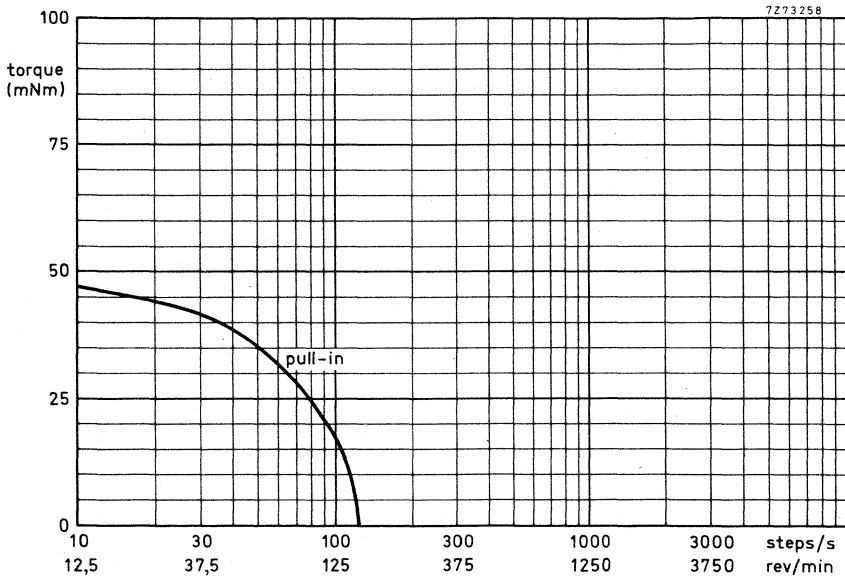

Fig. 2. Torque versus stepping rate, measured at room temperature
2) When driven by electronic switch 9904 131 03003 with RC network (see General section, Fig. 2.  $R_V = 15 \Omega$ ;  $C_V = 50 \mu F$ ;  $V_B = 12 \text{ V d. c.}$ ;  $R_S = (V_B - 5)/0,230 \Omega$ ).